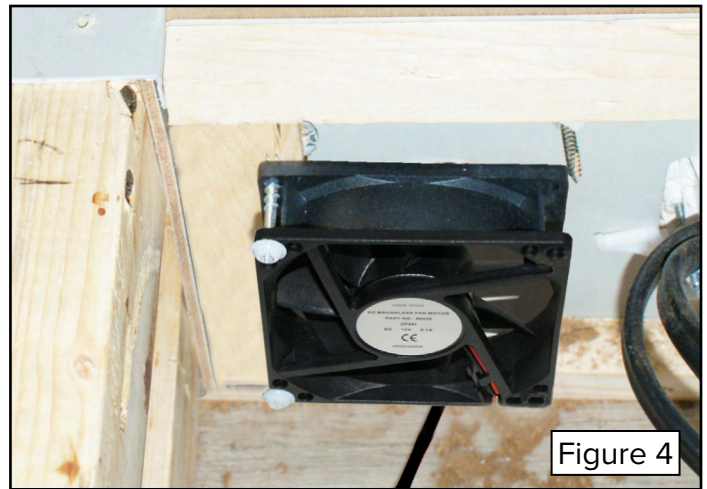

Figure 4
4. Use a screw gun and an extended #2 square drive bit to secure the fan in place using two (2) 1-3/4" pan head screws (P/N 104394) (Figure 4).